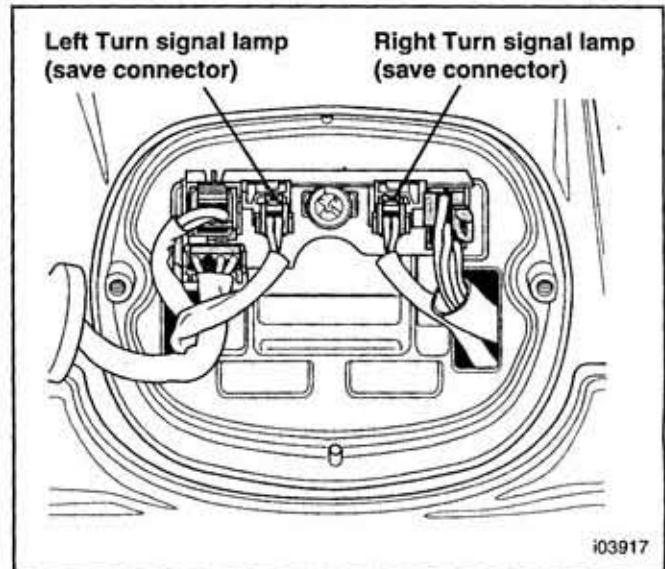

Figure 2. Turn-Signal Connectors
2. **1991 – 1998 models only:** See Figure 2. Trace right directional wire routing along underside of rear fender. Remove cable strap located on topside of rear fender near the rubber grommet. Gently pull wire rearward along underside of fender and into directional housing to allow for additional length of wire within directional housing.